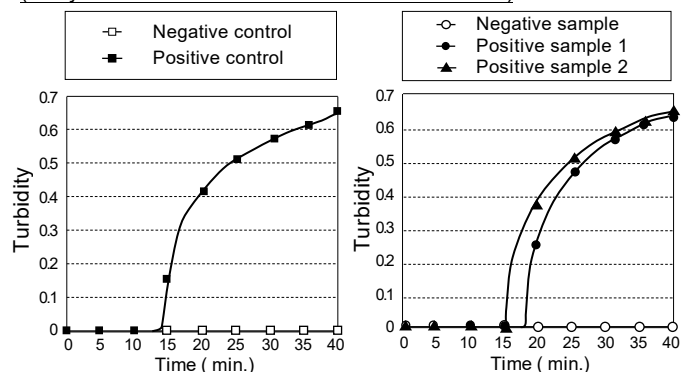

Fig. 1 : Amplification plots for controls. Fig. 2 : Amplification plots for samples.
- (1) Configure the Real-Time Turbidimeter HumaTurb C+A for detection with this product.
- (2) Check whether the displayed temperature reaches 65.0 °C (allow the turbidimeter to warm up for 20 minutes before use).
- (3) Place the reaction tubes and start measurement.
- (4) Watch the turbidimeter display to check the positive and negative controls for any increase in turbidity. If the turbidity increases in the positive control but not in the negative control, the amplification reaction is proceeding correctly (Fig. 1). If this is not the case, the amplification reaction might be proceeding the wrong way. In such a case, retest the affected samples.
- (5) Confirm the completion of polymerase inactivation (automatically completed by the turbidimeter). Take all reaction tubes out of the Real-Time Turbidimeter HumaTurb C+A and discard them without opening.
After confirming that the turbidity increases in the positive control but not in the negative control, evaluate samples per the following criteria (Figs. 1 and 2).